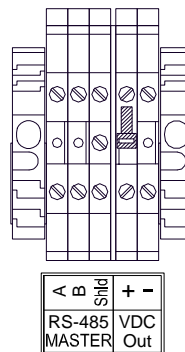

Figure 15 N4X RS-485 Master Port Connections
6. Connect the external Modbus™ sensors at the RS-485 connections labeled **RS-485 Master** and 'A', 'B', and 'Shld' (Figure 15).